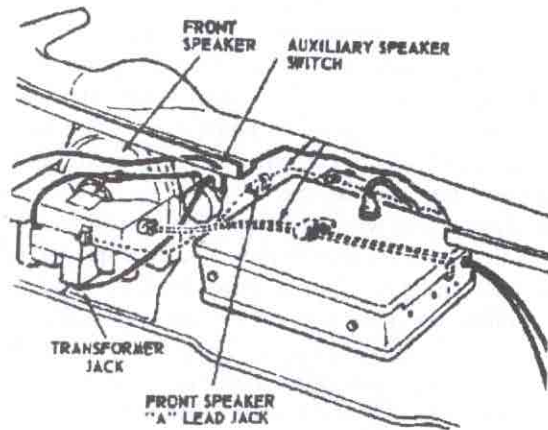

FIGURE 1 — Car has P/P lead on the left going over radio, and power lead (wire) on left front corner.
**T**HIS is a CAR radio (figure 1), where the power pack harness from the radio runs over the top of the radio, from the left side and the power pack lead has a wire with a connector.